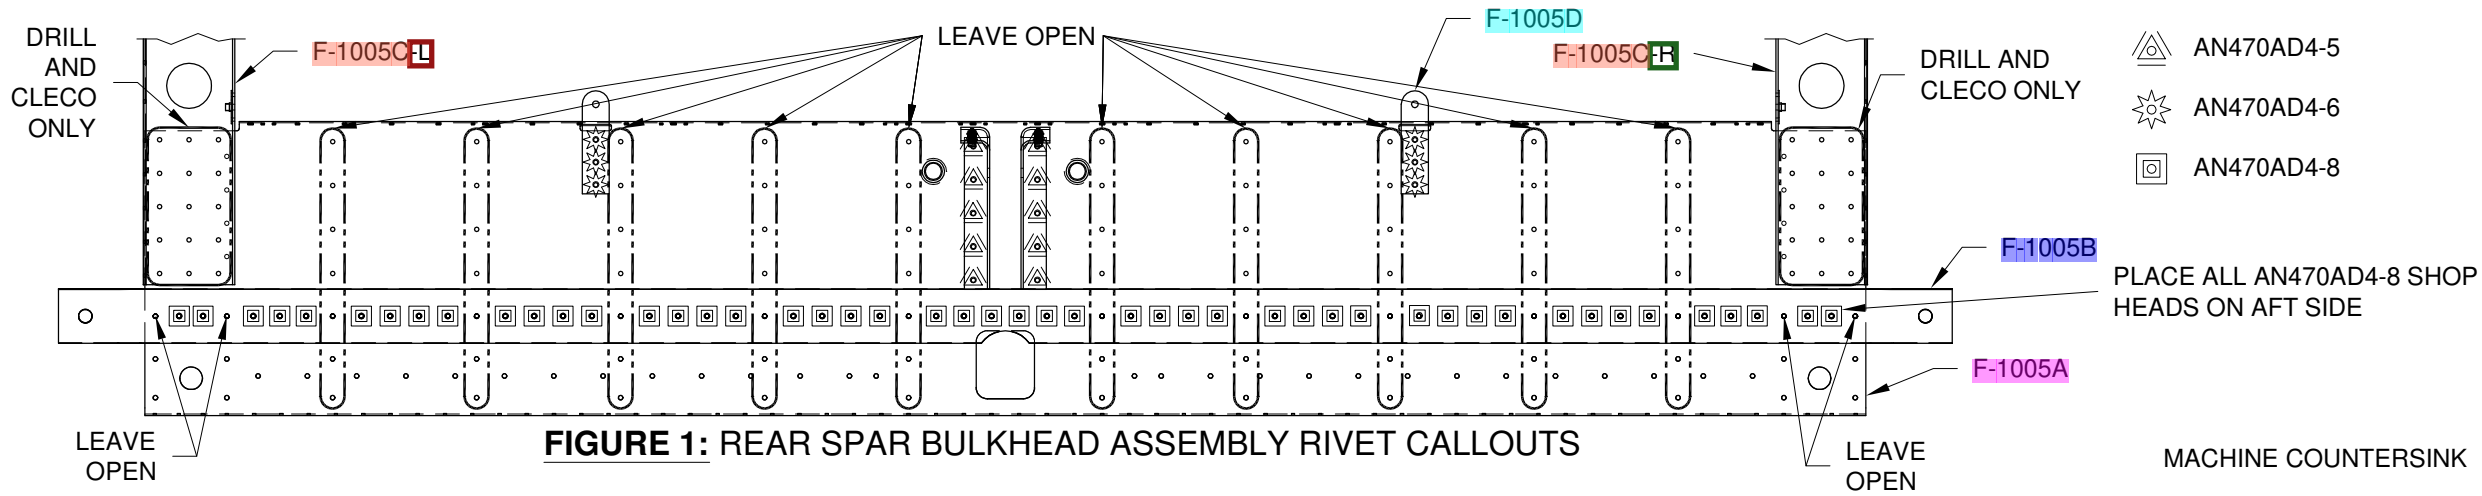

FIGURE 1: REAR SPAR BULKHEAD ASSEMBLY RIVET CALLOUTS
Step 2: Cleco the F-1005B Rear Spar Attach Bars, F-1005C-L and F-1005C-R Bulkhead Side Channels, F-1005D Crotch Strap Lugs, F-1005E-L and F-1005E-R Gussets and F-1063B-L and F-1063B-R Idler Arm Brackets to the F-1005A Rear Spar Bulkhead, as shown in Figure 2. Using Figure 1 as a guide tape over or mark the holes to be left open. Final-Drill #30 the remaining holes common between the parts just clecoed together.